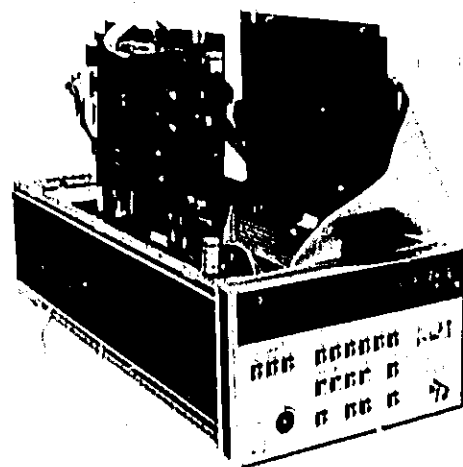

Figure 8-1-3. Service Position
6. Remove the metal shield separating board A6 from A5, and locate A5 board assembly onto the locating lugs on the left side of the instrument as shown in figure 8-1-3.